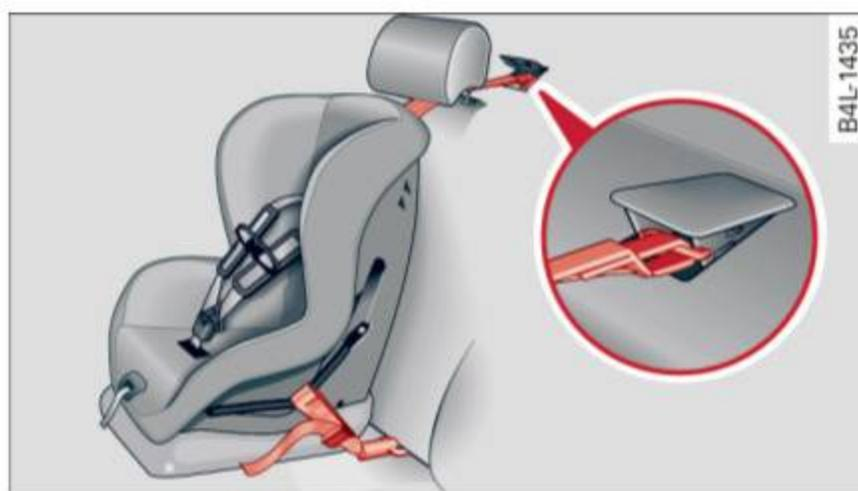

Fig. 152 Tether strap: proper routing and mounting
- ▶ Guide the upper tether strap **under** the rear head restraint ⇒ *fig. 152* (raise the head restraint if necessary).